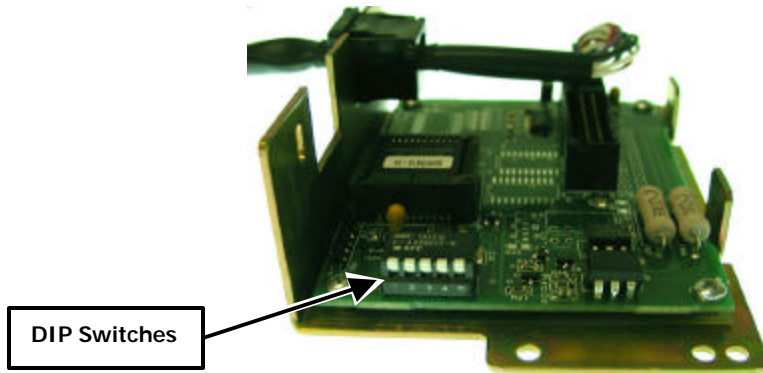

Figure 5. Protocol Adapter Assembly — Location of DIP Switches
6. On PAA, set DIP Switches (**Figure 5**) to activate required functions indicated in **Table 2** for your unit.